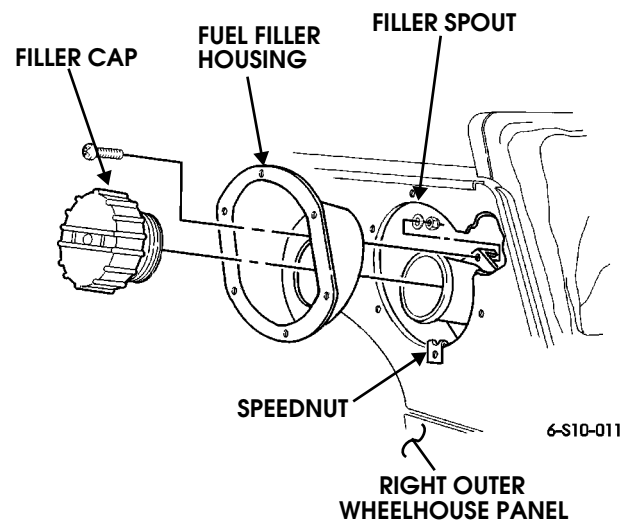

Figure 10-126: Fuel Filler Housing - Main Tank
1. Remove filler cap from filler spout (Figure 10-126).
1. Pull filler cap through fuel filler housing and install housing on right outer wheelhouse panel with six washers and screws. Tighten screws to 18 lb in. (2 N•m) (Figure 10-126).